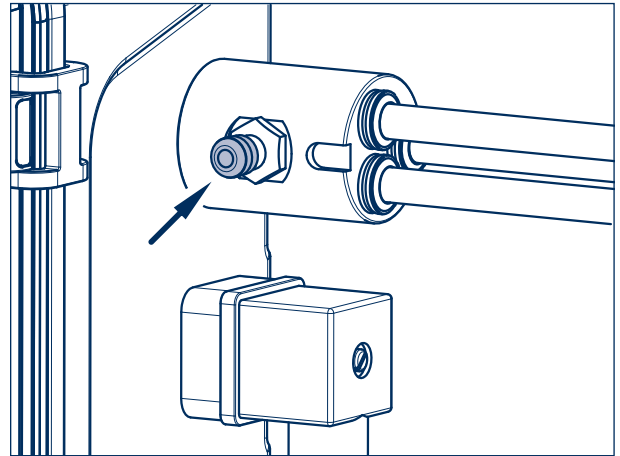

Figure 26
- [1] Remove cap on the pressure connection (arrow, Figure 26).